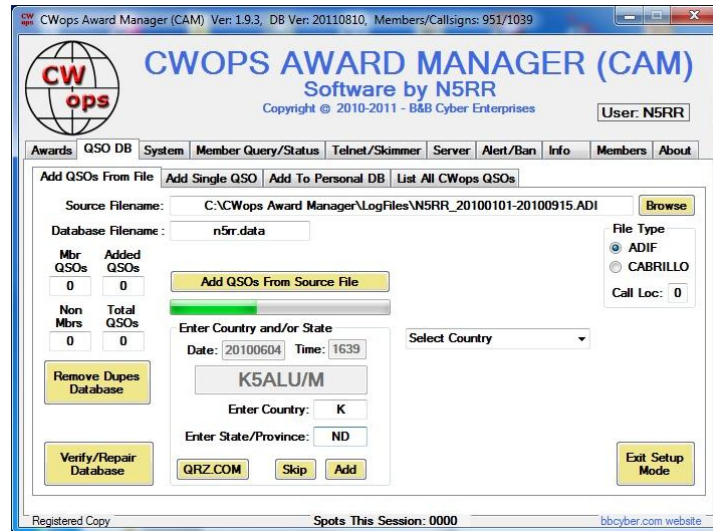

Figure 3-5. Annotate QSO Location for Portables
Step 3: Select the file and click "Open." Click the "Add QSOs From Source File" button. The process should quickly complete and display the message: "" If there are QSOs in the file with CWops members that are using a portable designator (examples, K9FN/M or SV9/OH1VR) then CAM may display additional selections to allow you to define what location the QSO actually pertains to. See Figure 3-5.